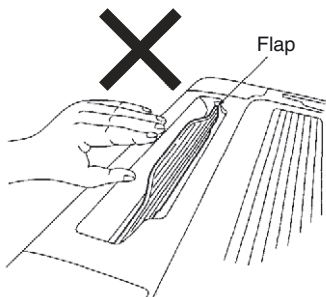

Fig. 7-2
- Do not touch the flap or apply force to it. (Fig. 7-2)